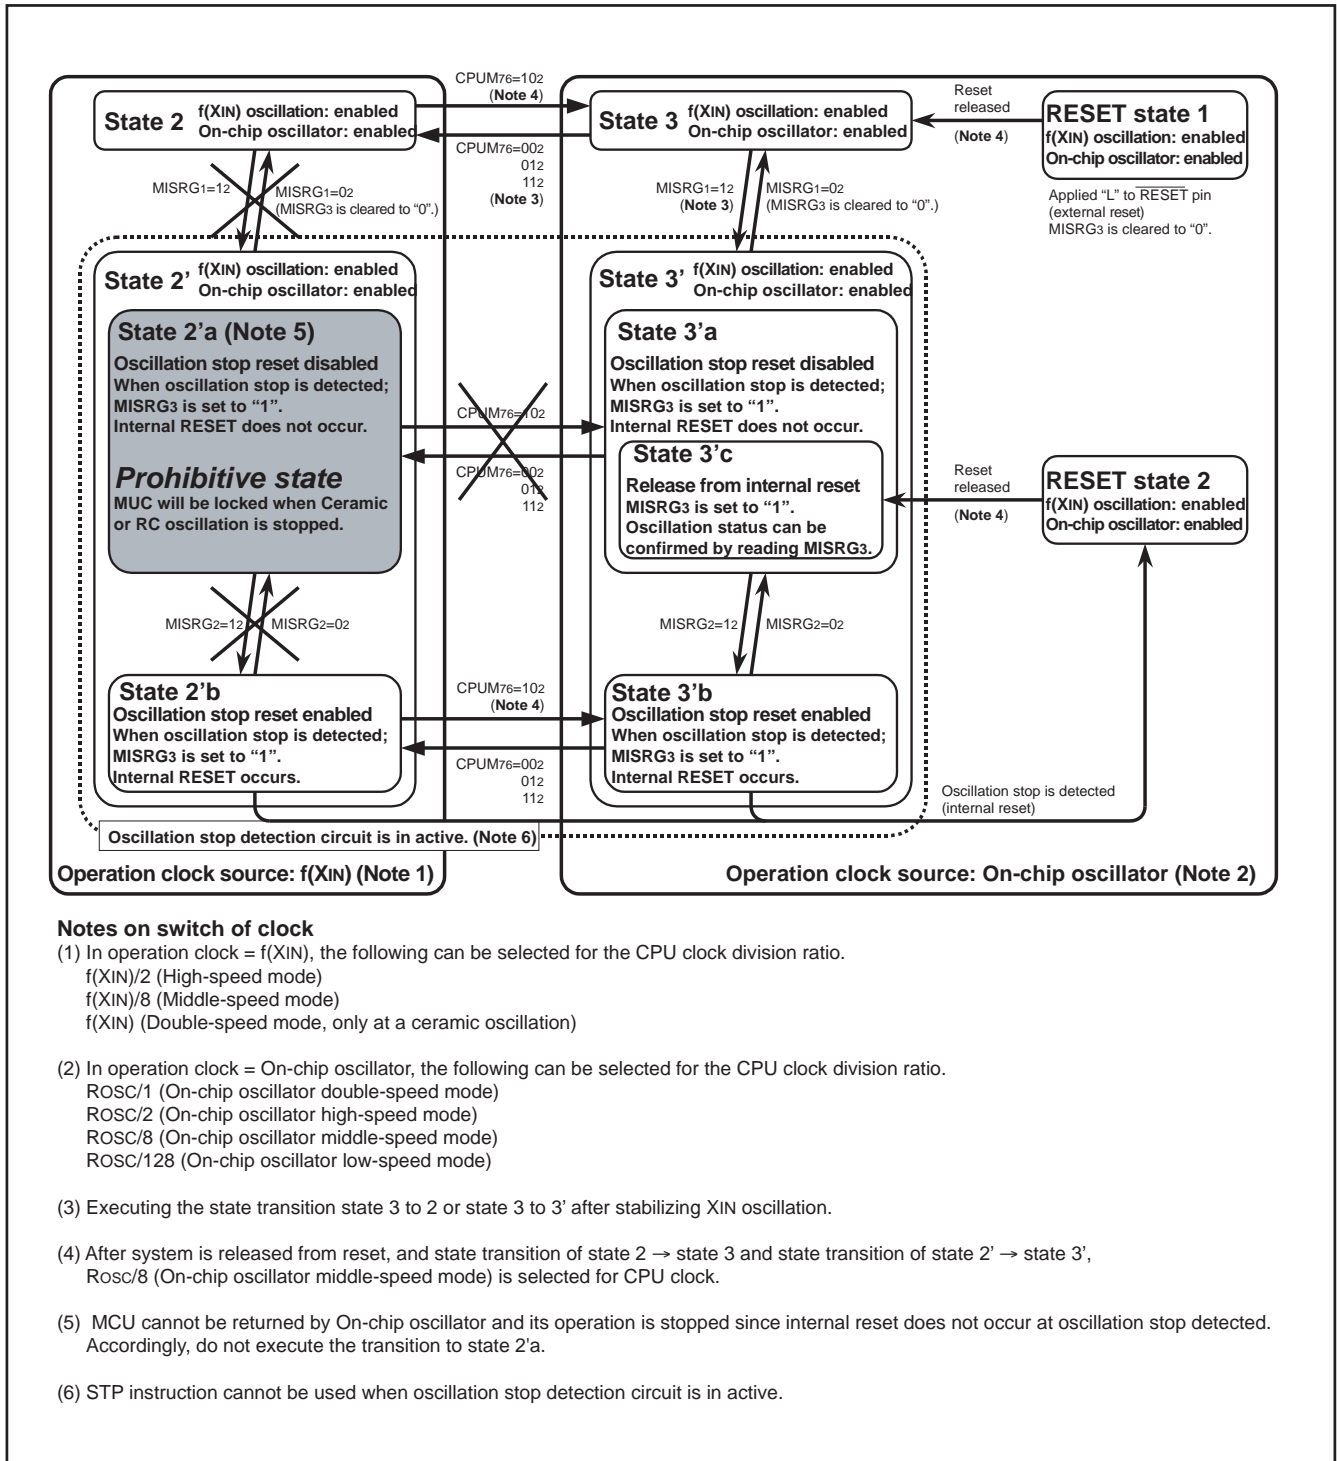

Fig. 84 State transition 2
- Do not execute the transition to "state 2'a" shown in Fig. 84 because in this "state 2'a", MCU is stopped without reset even when XIN oscillation is stopped.
- (1) External reset
- (2) Write "0" data to the ceramic or RC oscillation stop detection function active bit.